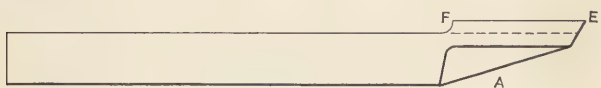

Fig. 21
**Side Tools.**—In Fig. 21 is a top and side view of a side tool. It should not be pounded on its edges but should first be formed to shape on the lower edge, *A*, causing the metal to flow toward the top of the tool as indicated in Fig. 22. The edges should then be trimmed as shown by the dotted lines in Fig. 22. The cutting edge should be a little higher at point marked *E* than it is at heel marked *F*. When cutting, start
brought to shape by the blows of the hammer. In Fig. 24 the edge of the tool is being drawn down thin on the face of the anvil, leaving the back of the tool at *A* as thick as the bar it is made from. Side tools are made right and left hand as the case may be. The one in Fig. 21 is a right-hand tool.